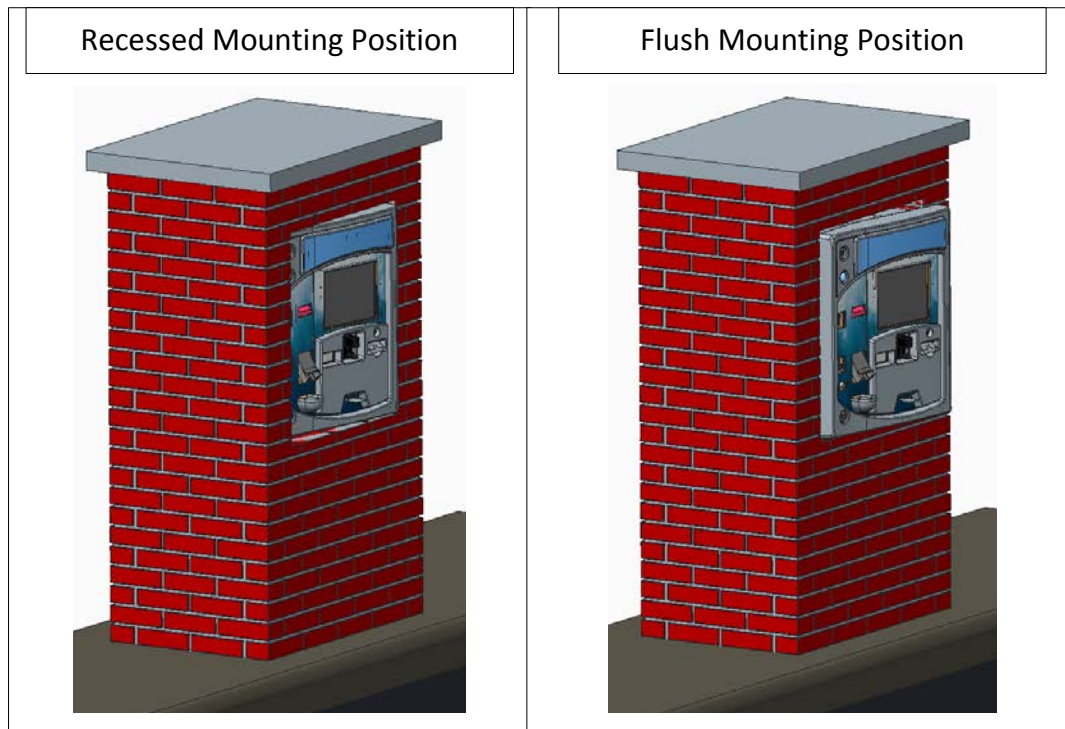
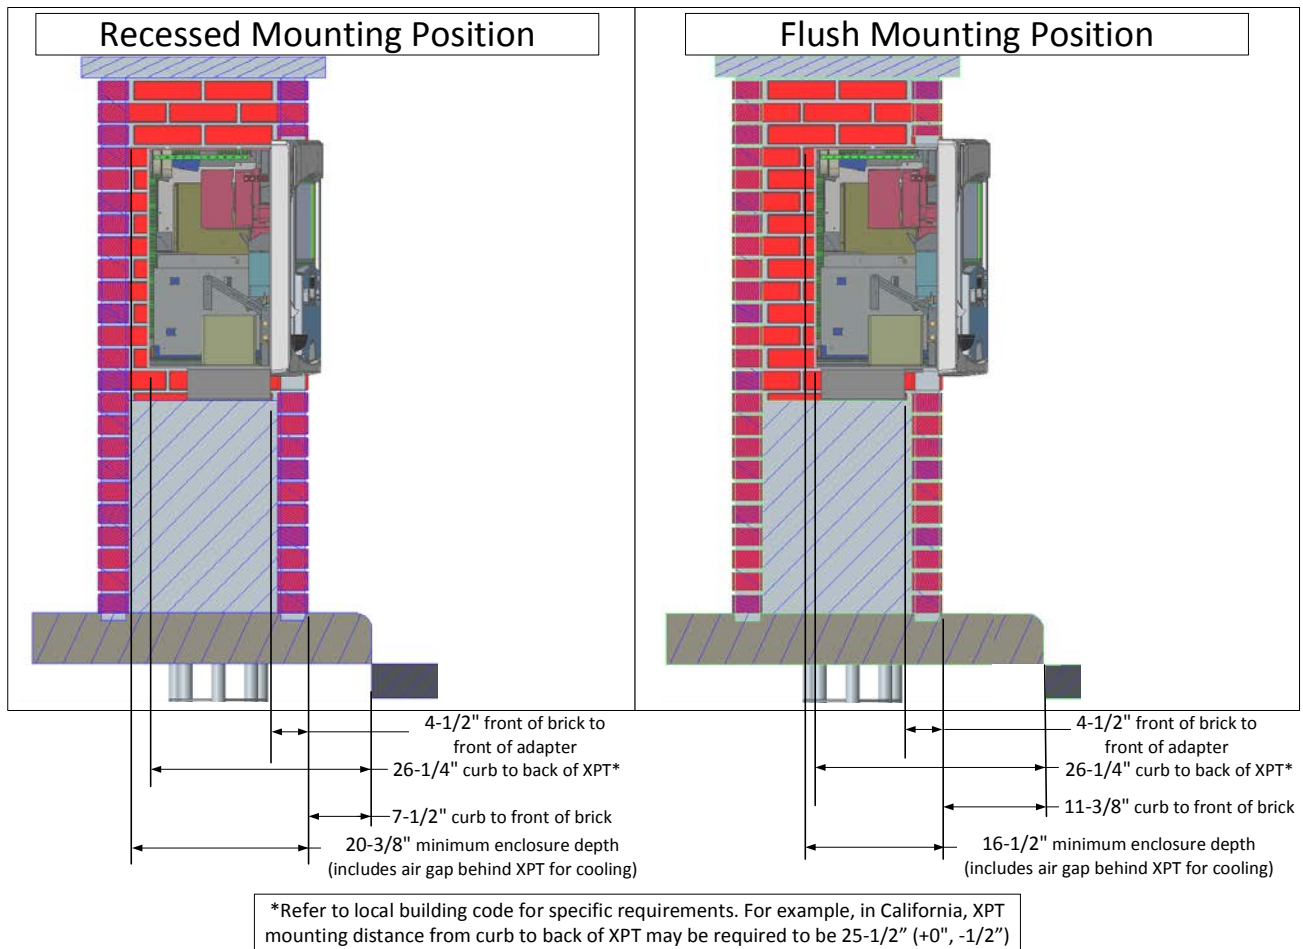
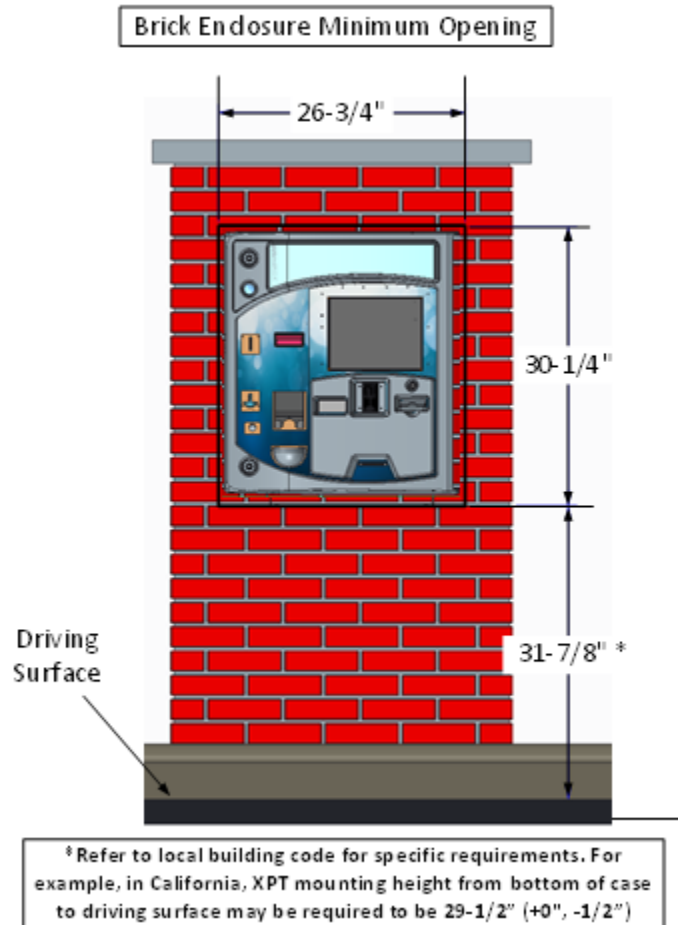

Figure 12. Brick-In Mounting Positions
Figure 13. Mounting Position vs. Enclosure Placement and Size
Figure 15. Brick Enclosure Minimum Opening
In addition to two mounting options, there are two available mounting positions – recessed and flush mount. See Figure 12 for an example of each. **It is important to determine which mounting position will be used, as this will determine how far back the brick enclosure should be built from the edge of the curb** (as shown in Figure 13).
- Depending on whether the XPT will be mounted in recessed or flush mount position, the brick enclosures should be sized and positioned relative to the curb as shown in Figure 13. The recessed mounting position will require the brick enclosure be made deeper than if using the flush mounting position.
- After the brick enclosure depth has been calculated according to Figure 13, the enclosure should be sized to allow a minimum 26-3/4" wide by 30-1/4" high opening for the XPT, as shown in Figure 15. These dimensions allow the correct minimum gap around all sides of the XPT to allow the main door and vault doors to fully open without contacting the brickwork. The proper gap underneath the front of the XPT becomes even more critical if the XPT includes the coin dispensing option, because the coin cup protrudes downward several inches when the vault door is open.